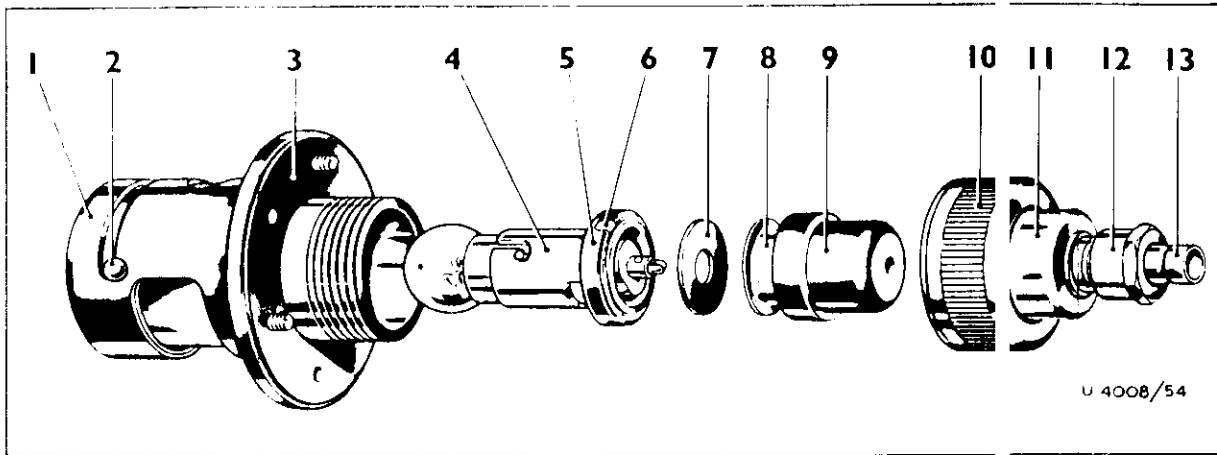
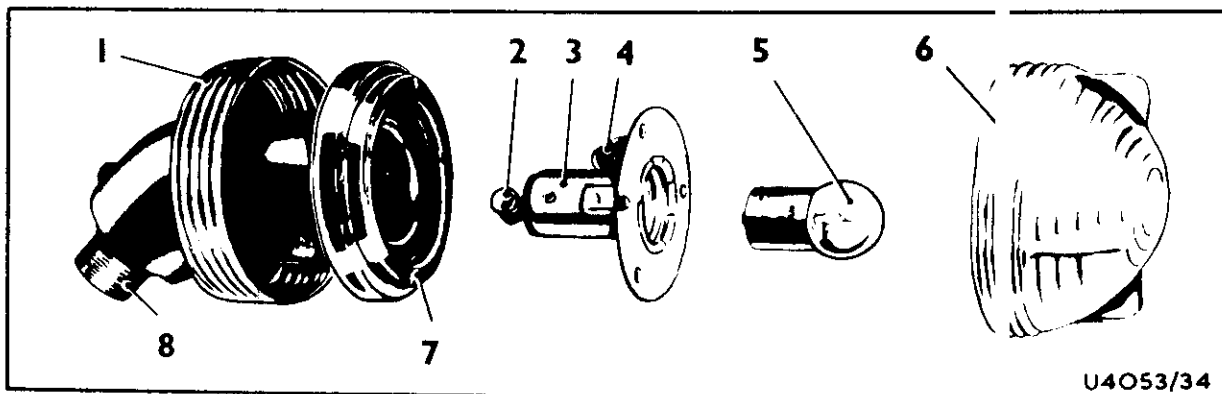

Fig.6. Registration plate light
Fig.7. Sidelight
**Convoy and registration plate lights (Fig.6)**
43. These two lights are similar. For lamp renewal the bayonet type lamp holder is removed by unscrewing the locking ring (10) immediately behind the mounting plate. When replacing the lamp-holder, care must be taken to ensure correct location of the front rubber mounting (5).
**Side and turn lights (Fig.7)**
45. To gain access to the lamp of the tail/stop light, the lens must be unscrewed from the mounting plate. This is similar to (Fig.7), except that the lamp is a double contact index pin type and can be inserted in one position only. Ensure that the lens is screwed firmly into position after lamp replacement.